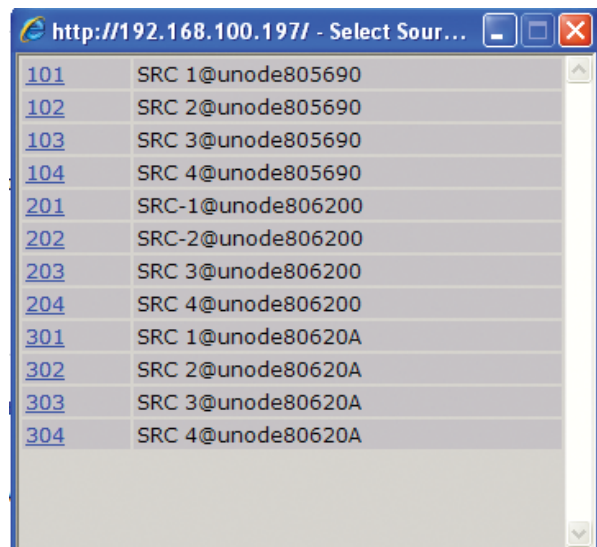

Figure 2-2
- The next step would be to define the audio that is present at the output. This is done by choosing the browse button next the channel text box. A popup will appear with a list of sources that are present on the network. A sample of three xNodes freshly installed into a network is shown in figure 2-2. At this point, not many sources have been configured with
If you notice in figure 2-2, the three xNodes are showing a default host name which provides little assistance to the end user. To resolve this you can select the *System* link under the *Advanced Options* to change the host name to something more descriptive (e.g. Studio1-MICs, TOC-AES1, SATRCK-GPIO1). With a descriptive host name applied to the xNode, a listing of available audio streams will be displayed in a more descriptive manner, i.e., HostMic@Studio1-MICs Guest1@Studio1-MICs CD1@Ctrl1-AES WXYZ-tune@TOC-ANA1, etc.